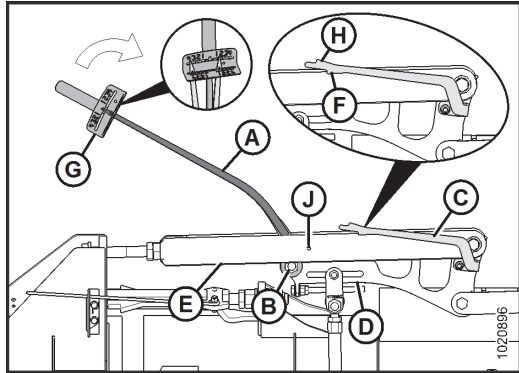

Figure 8: Wing Balance Linkage, Wings Set too Light – Left Side Shown, Right Opposite
3. Place torque wrench (A) on bolt (B).
4. Check that pointer (C) is properly positioned as follows:
- a. Use the torque wrench (A) to move the bell crank so that the bell crank's lower edge (D) is parallel to the top-link's lower edge (E).
- b. Ensure pointer (C) is lined up with the top-link (E). If necessary, bend the pointer it aligns with bolt hole (J).
5. Move wing upward with torque wrench (A) until the pointer's lower alignment tab (F) lines up with the upper edge of the top-link (E). Refer to Figure 8. Observe the indicator reading (G) on the torque wrench and record it.